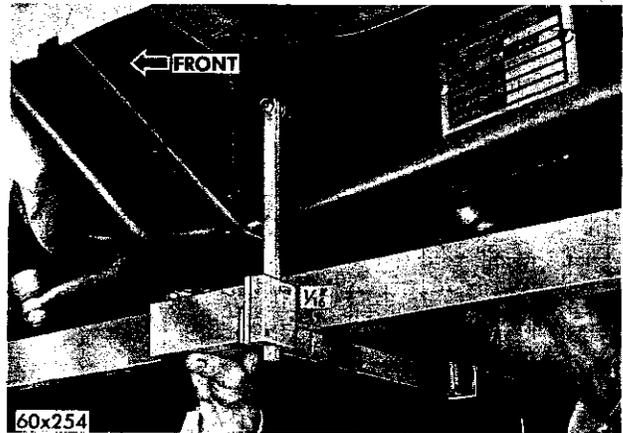

Fig. 16—Checking Body to Frame Alignment
(6) Measure the space, created by leveling the bars, between the bars and the center gauge (Fig. 16).